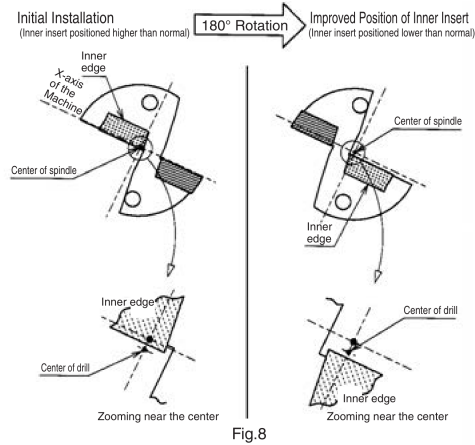

Fig.8
- Install the drill rotated 180°. Most problems will be solved by this method. (Fig.8)